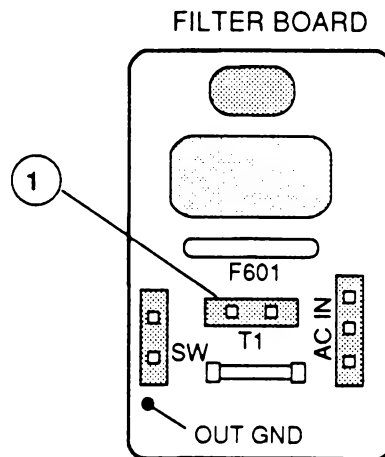

FIGURE 20
3. Disconnect the black-and-white pair of wires from T1 on the line filter board (Figure 20, #1).